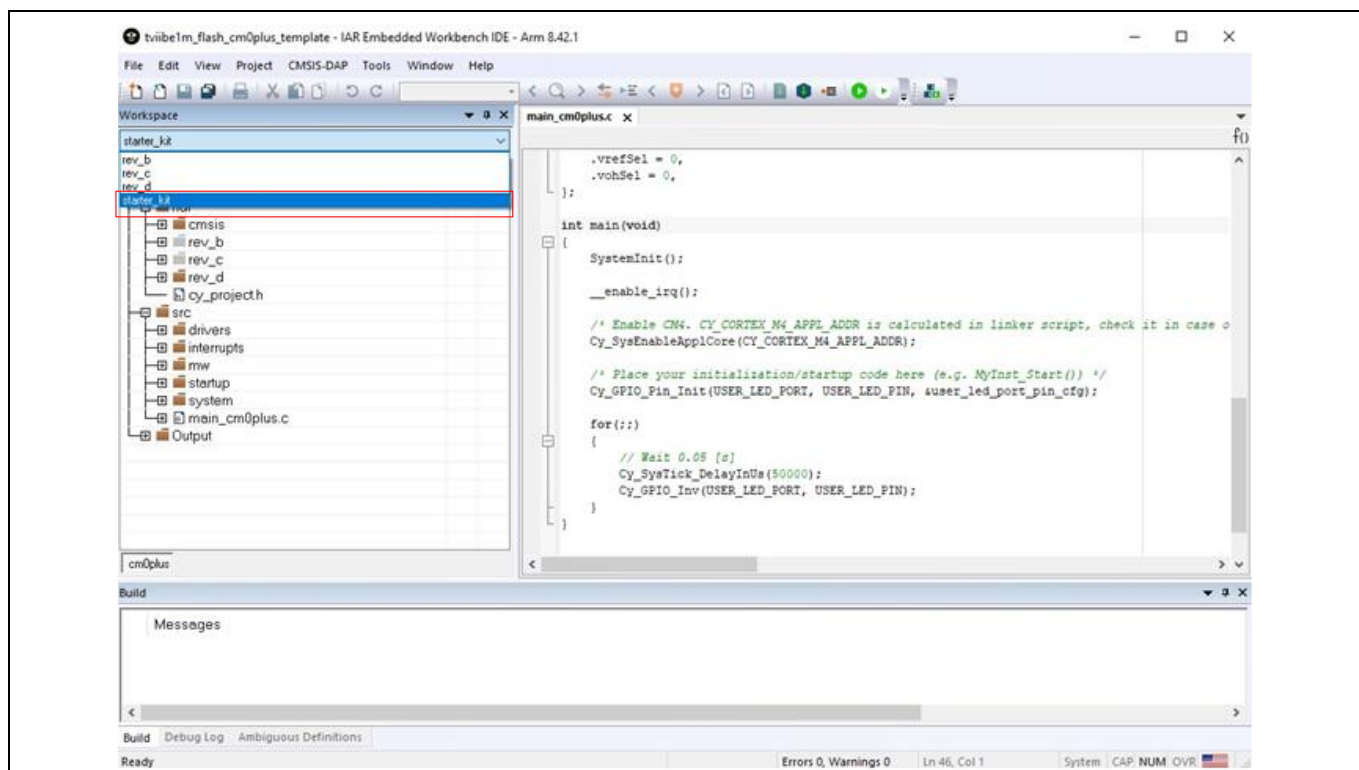

Figure 9 Selecting workspace revision
2. Select the workspace revision **starter_kit** from the drop-down list under **Workspace**, as shown in Figure 9.